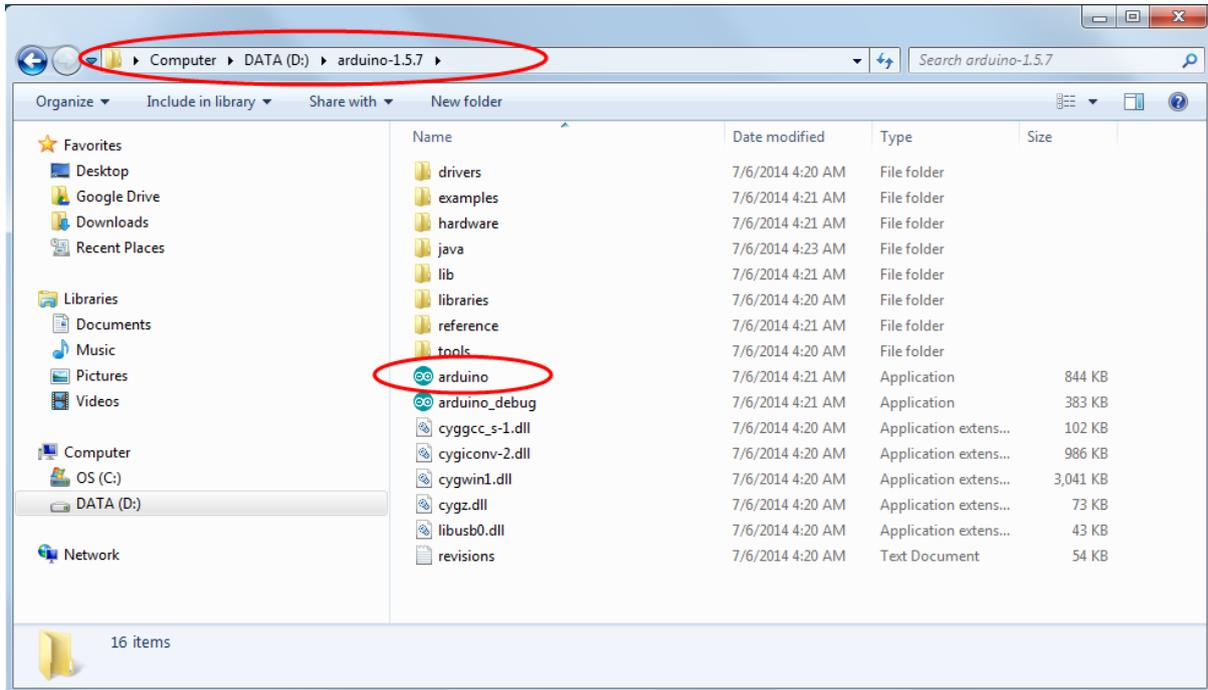

Figure 5 The Arduino installation folder containing Arduino.exe
- 3) After installation, note the folder in which you installed Arduino, which is the folder containing arduino.exe (as shown in Figure 5). You'll install the LinkIt ONE SDK into this folder.